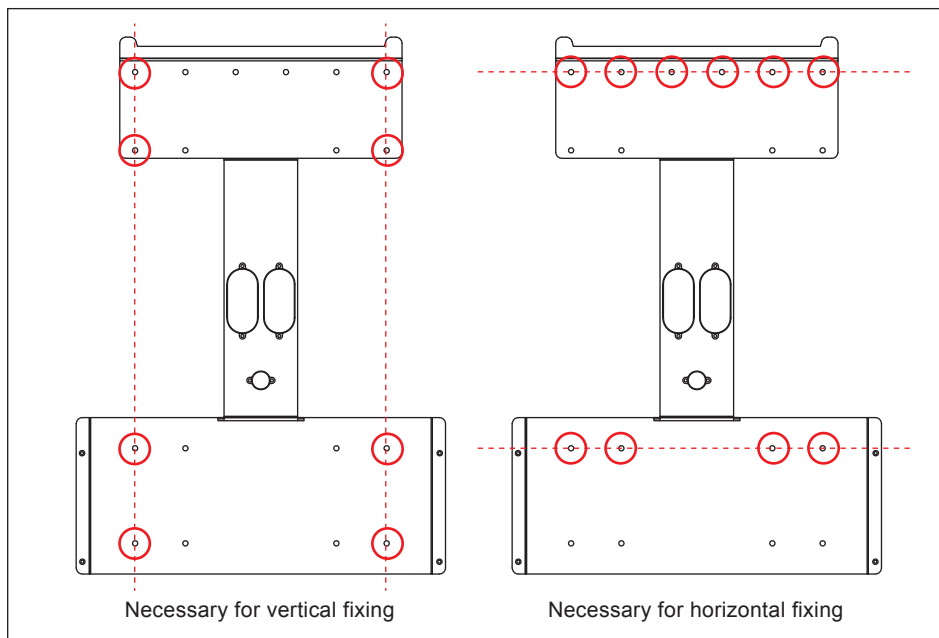

Figure 3-2 : Required position for at least 8 screws
3. There are two ways for fixing the wall mounting bracket as shown in **Figure 3-2**.